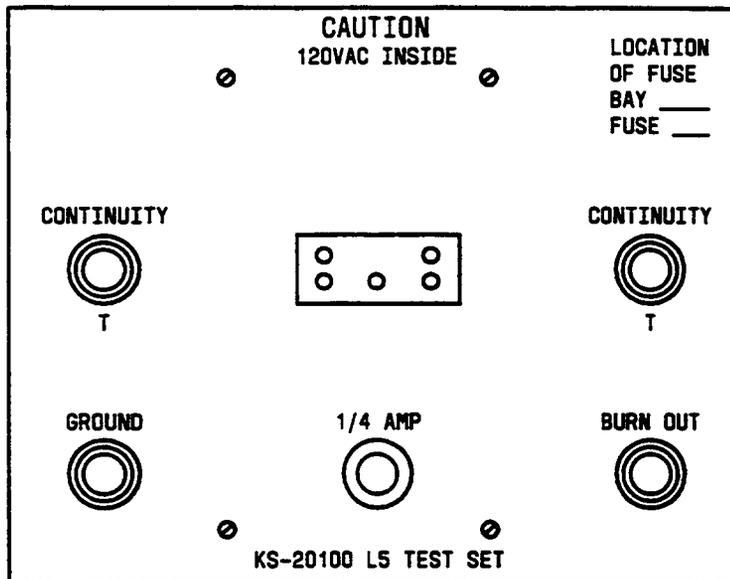
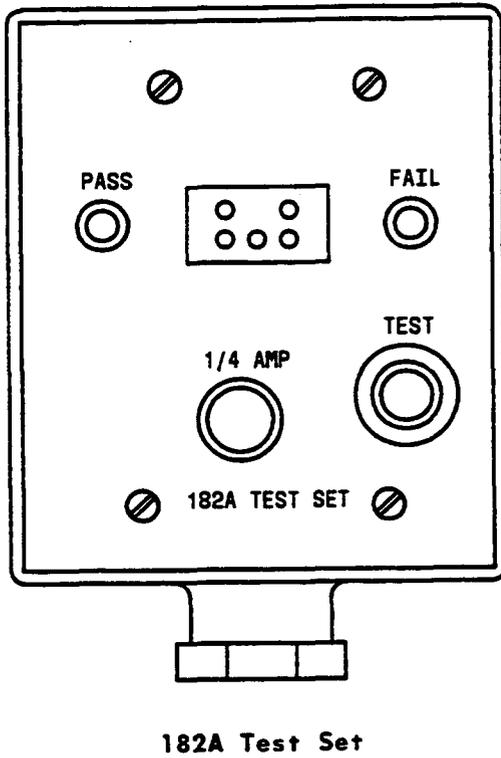

Figure 12—KS-20100, L5 Test Set
Figure 13—182A Test Set
7.04 Before installing the 3-, 4-, or 5-type protector units onto the connectors, each unit may be tested. The KS-20100, L5 test set (Figure 12) is used to test for the presence or absence of tip and ring continuity and ground and also provides a burnout feature to clear protector units shorted by carbon or dust particles. The 182A test set (Figure 13) is used to test the minibridge lifter protector units for tip and ring continuity and for shorted protector blocks. It also tests